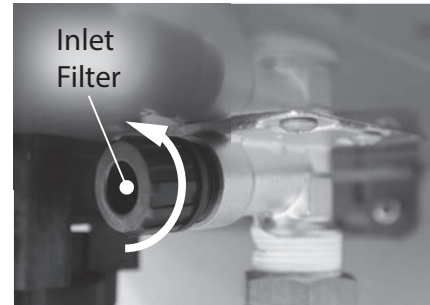

Figure 240 - Locate and remove inlet filter
- 7 Locate and remove the inlet filter as shown in Figure 240 to drain any residual water left in the system. Place a bucket or pan underneath inlet filter to collect water during removal.